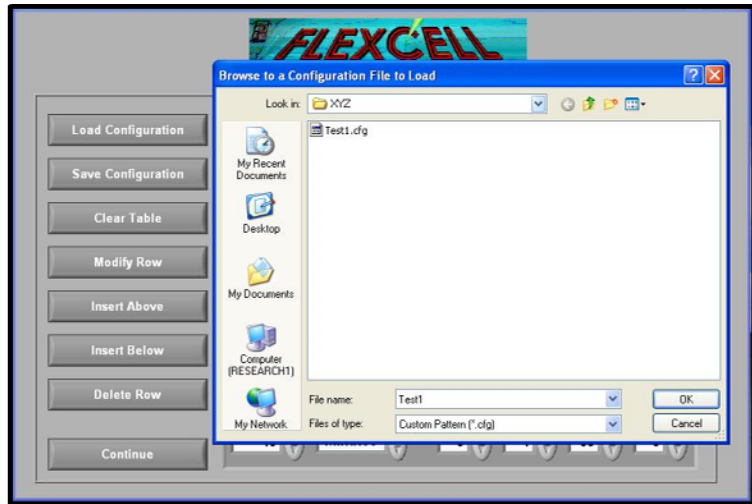
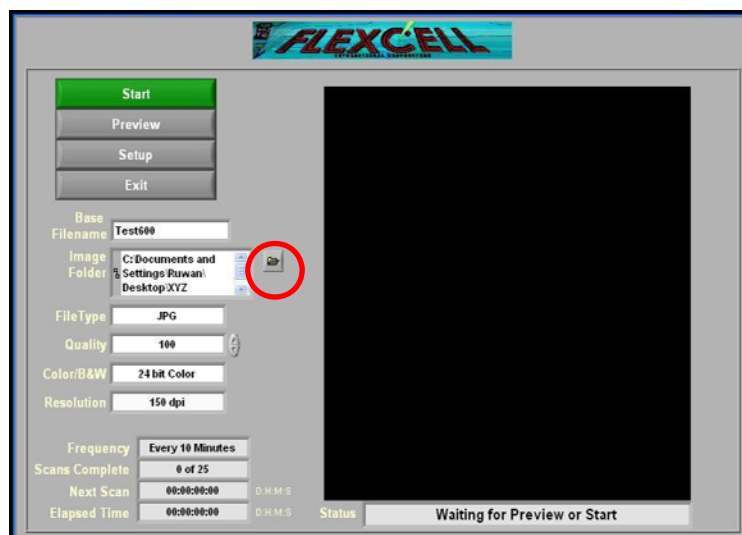

Figure 30. Opening existing regimen files
Figure 31. Image acquisition screen
- 7) On the SCANFLEX™ Setup screen (**Figure 30**), click on **CONTINUE** to proceed to the image acquisition screen (**Figure 31**).
- 1) When the user name is selected in the login screen (**Figure 27**), the folder containing saved regimen files (Configuration files) will be opened as a popup screen (**Figure 30**).
- 7) When all steps have been added, save regimen by clicking on *SAVE CONFIGURATION*. A folder with user's name as the title will be opened (**Figure 31**).
- 9) On the SCANFLEX™ Setup screen, click on *CONTINUE* to proceed to the image acquisition screen (**Figure 31**).
- 1) For an existing user, when the name of the user is selected from the User list (**Figure 27**), the folder containing all regimen files (**Figure 31**) that belong to the user will open automatically.
- 7) Click on *CONTINUE* to proceed to the image acquisition screen (**Figure 31**).
The image acquisition screen (**Figure 31**) enables the user to set several parameters such as *image file type, quality, color scheme, and resolution*. It also displays real time scanning information such as the *number of scans completed, next scanning time, and elapsed time*. The image of the last scan is displayed on the right side of the screen. Follow the instructions shown below to set each parameter.
Click on the image folder icon (**Figure 31, red circle**) to specify a location for the scanned images to be stored. The file path of the selected location will be displayed in the *image folder* box.